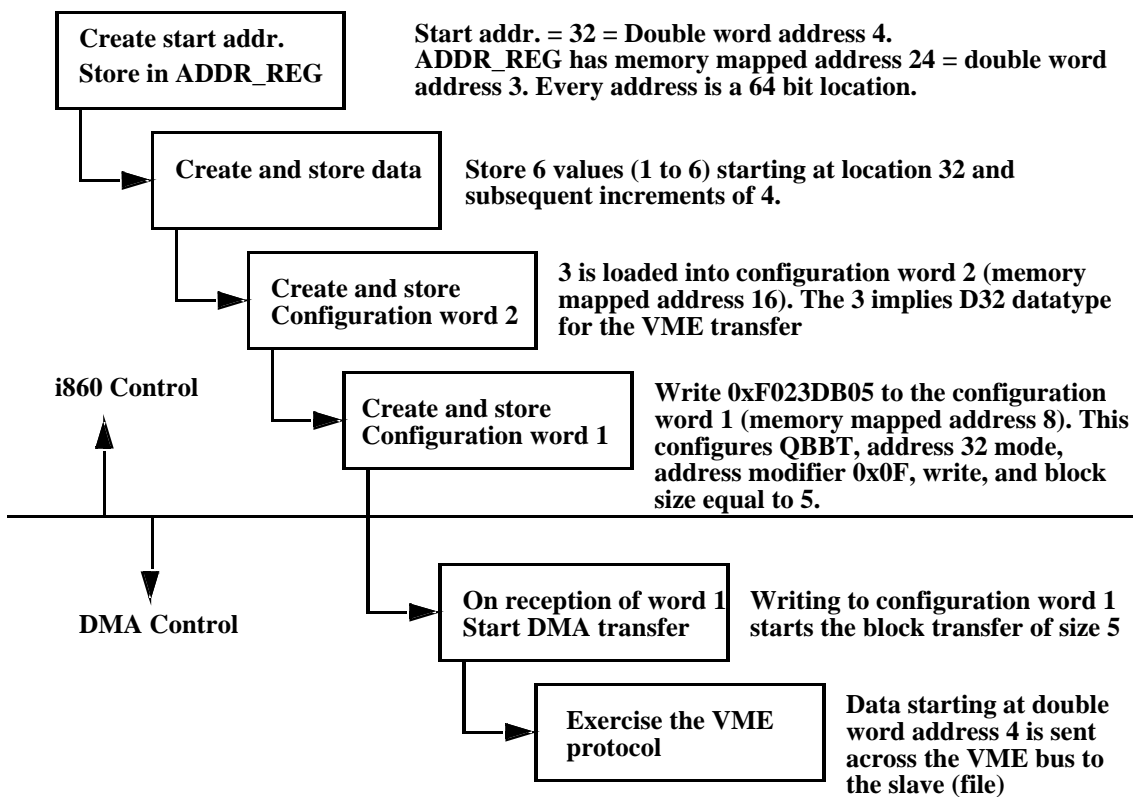

Figure 3: Program Flow of i860XP Application Code
- 4.2. "MEM002047" is the memory file containing the application or test code. After reset, the code at the reset location executes a branch to the start of this file. Figure 3 describes the application that will be used throughout the lab. The file "VMEtestMEM1" contains the application code.